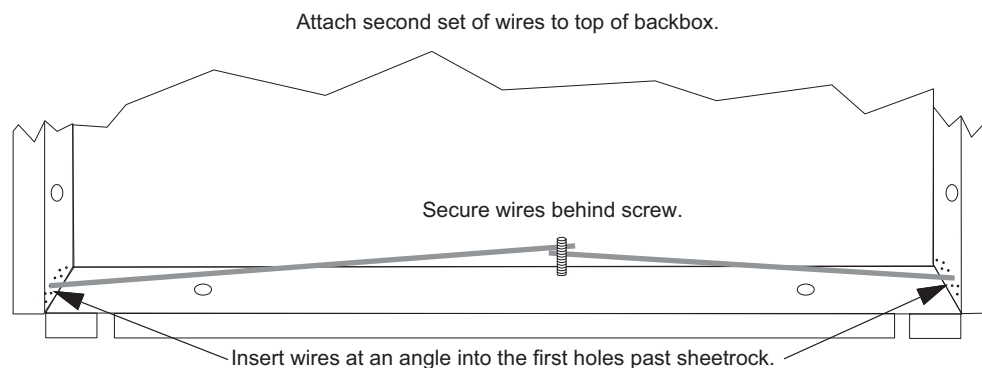

Figure 4.23 Flush Mounting the Backbox
3. Fit the annunciator backbox into the hole and stabilize with mounting wires. Angle the mounting wires into the first hole past the sheet rock. Secure the wires behind the screws as shown in Figure 4.23. When all four wires are in place, the backbox should fit snugly into the hole in the sheetrock.